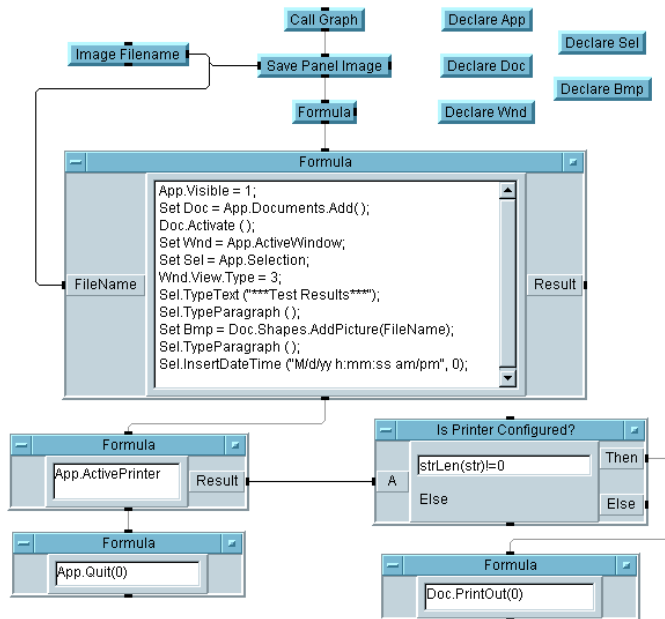

Figure 6-17. The Complete Program for Report in MS Word
8. Add three more `Formula` objects and one `If/Then/Else` object, configure, and connect them as shown in Figure 6-17.